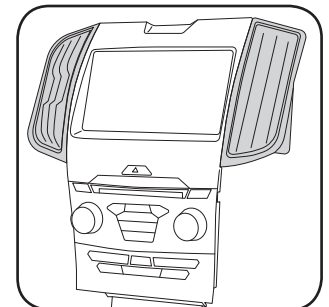

Fig. 3.8
8. Attach the climate vents on to the EDG3 assembly making sure the clips snap into place. (Fig. 3.8)